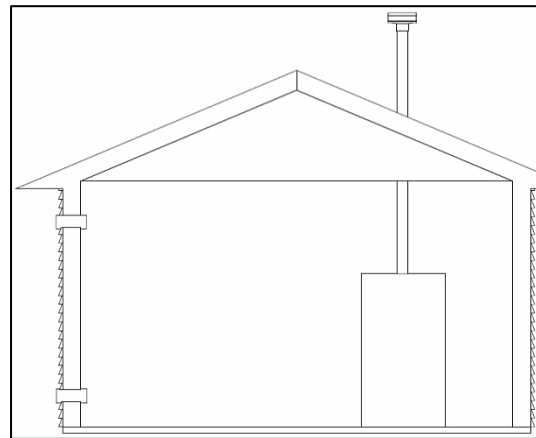

Figure 20 – Combustion Air From Outdoors
1. If air is taken directly from outside the building with no duct, provide two permanent openings to the mechanical room each with a net free area of one square inch per 4000 BTU/hr input. See Figure 20.